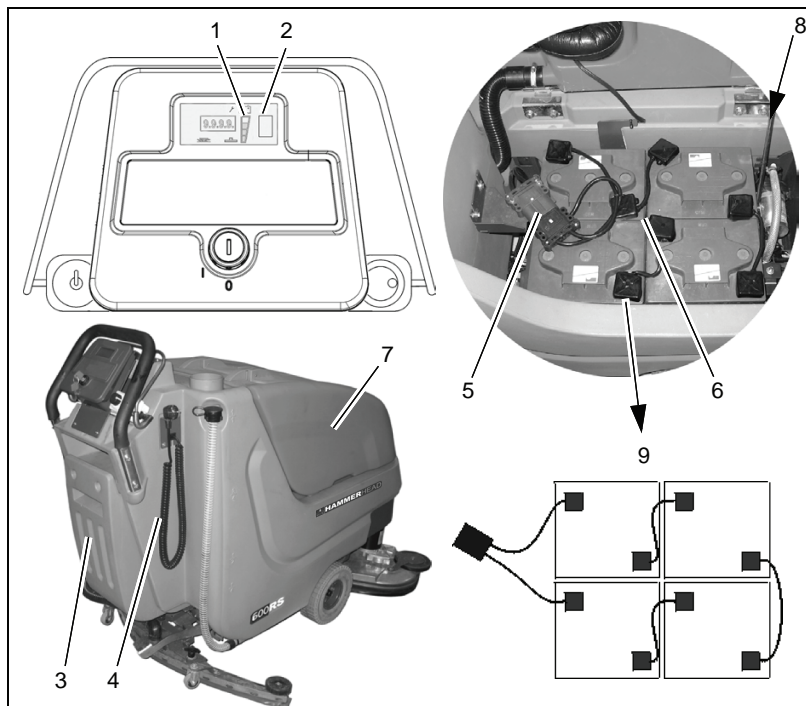

Fig.7
Use the integrated battery charger (Fig. 7/3) to charge batteries. Proceed to connection of the charger by means of the mains cable (Fig. 7/4) with safety plug. Charging batteries is recommended if at least one bar of the LDS display has extinguished after operation of the machine. On this behalf you are requested to observe the operating instructions of the charger 88-60-2723 as well as the operating instructions of the battery manufacturer. In case it is intended to change the type of battery the charger has to be adjusted only by Hammerhead contract workshops.
3. Open empty recovery tank (Fig. 7/7) and secure by support (Fig. 7/8).
4. Disconnect battery connector (Fig. 7/5).
2. Open empty recovery tank (Fig. 7/7) and secure by support (Fig. 7/8).
4. Connect battery poles and enclosed connecting cables according to wiring diagram (Fig. 7/9). Provide for tight fitting and grease poles.